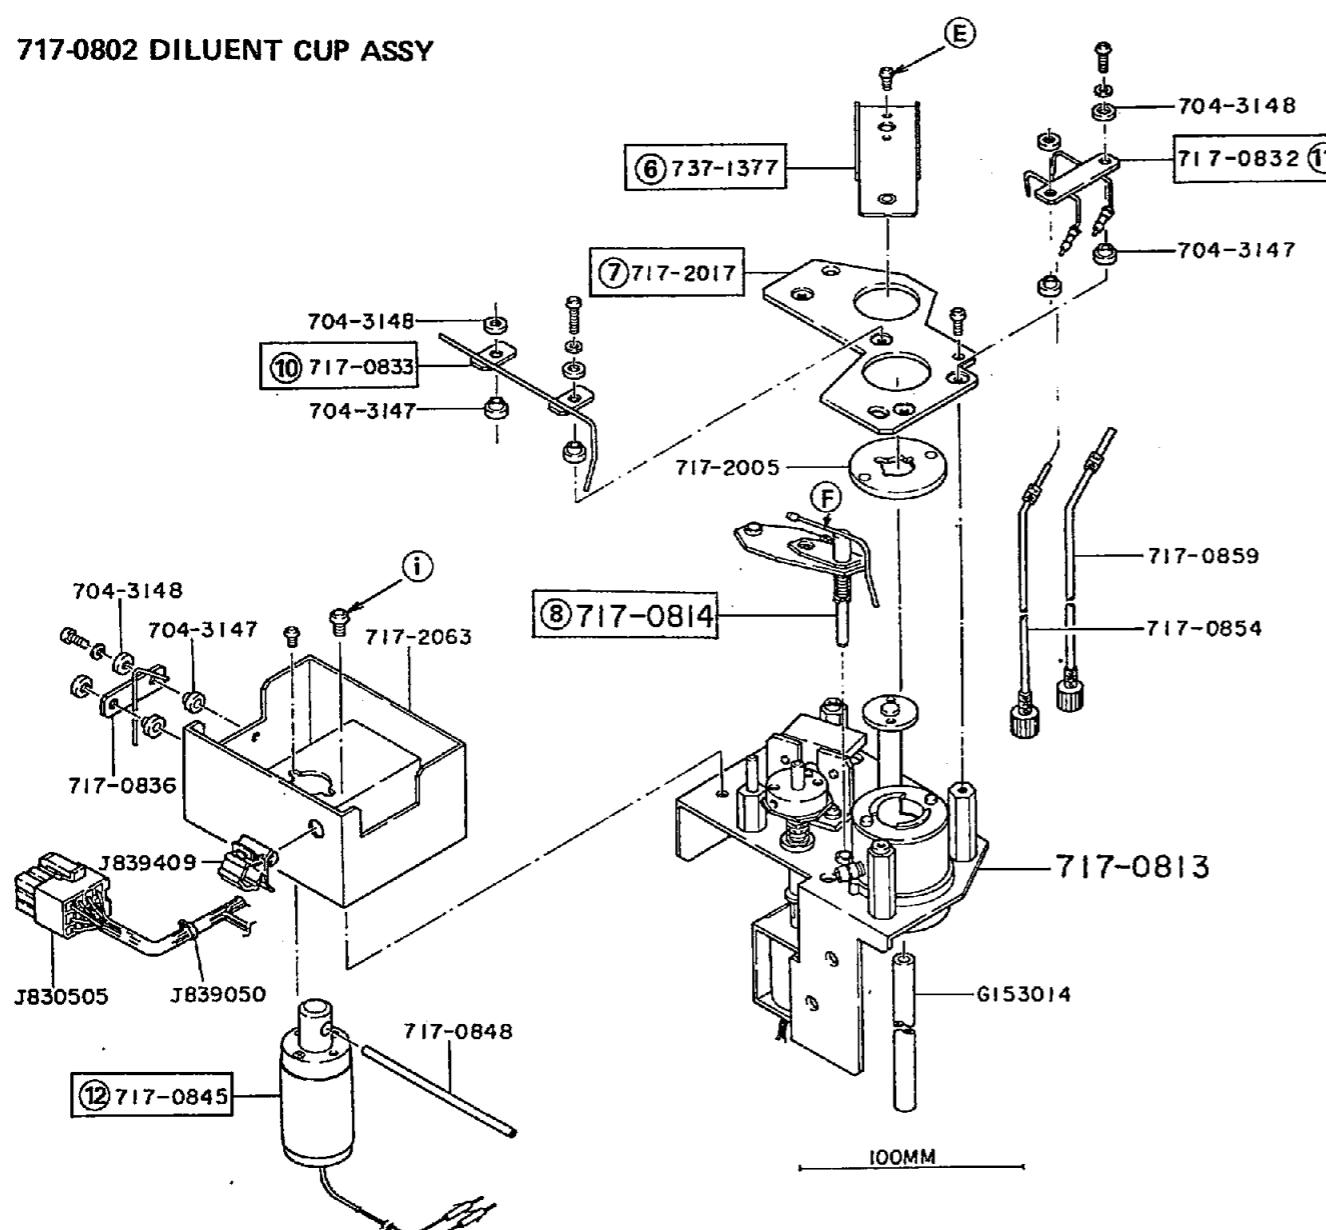
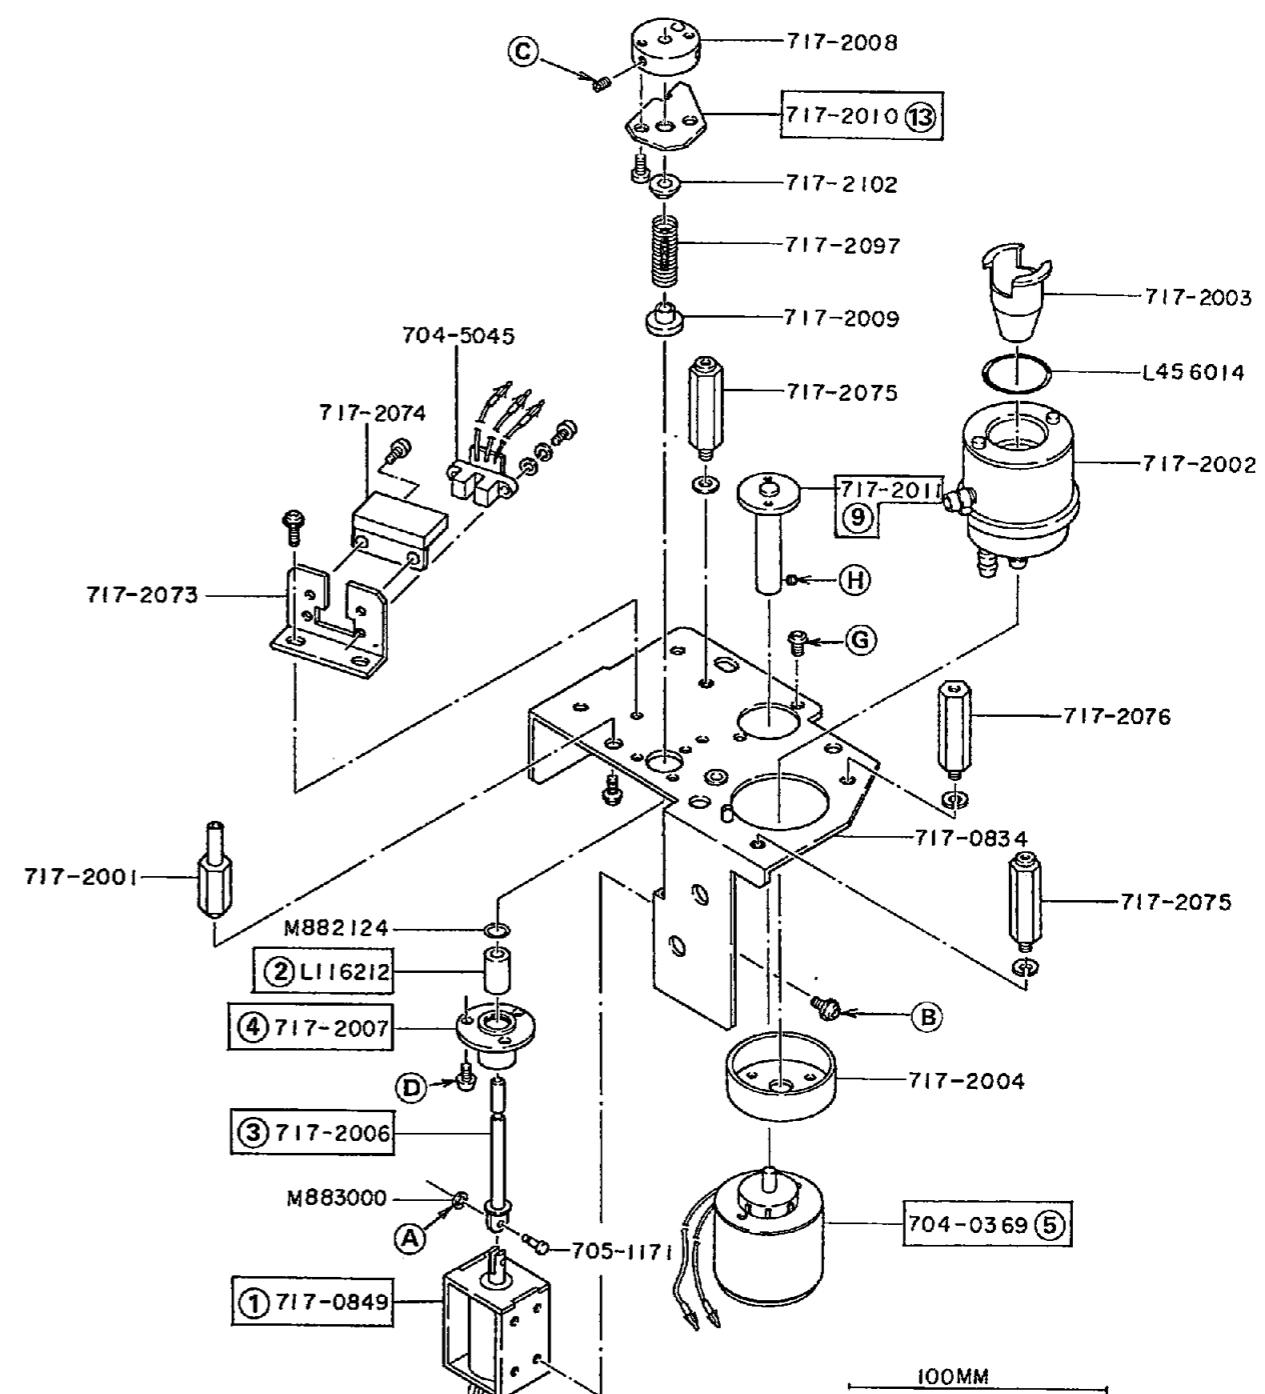

Fig. 8-20-1
Fig. 8-20-2
- (1) Detector plate ⑬ of vacuum nozzle assy should be in center of photocoupler.
- (2) Fix SOLENOID VALVE (2) (P/N 717-0849) ① (Fig. 8-20-2), so that vacuum nozzle can move smoothly up/down by hand.
(4 fixing screws B (Fig. 8-20-2) are concerned.)
- (1) Removal procedure of UPPER PLATE (P/N 717-2017) ⑦ (Fig. 8-20-1)
- (a) Remove Nozzle (SIP) ⑩, Nozzle (ISE) ⑪. (Fig. 8-20-1)
- (b) Remove vacuum nozzle assy ⑧ by unscrewing ⑨. (Fig. 8-20-1)
- (c) Remove shutter ⑥ (Fig. 8-20-1) by unscrewing ⑤.
- (d) Remove fixing screws and take out upper plate ⑦.
- (2) SOLENOID VALVE (2) (P/N 717-0849) ① (Fig. 8-20-2)
- (a) Remove snap-ring (A) and remove pin. (Fig. 8-20-2)
- (b) Remove 4 fixing screws (B). (Fig. 8-20-2)
- (3) BALL-BEARING (P/N L116212) ② (Fig. 8-20-2)
- (a) Remove upper plate ⑦. (Fig. 8-20-1)
- (b) Remove solenoid valve (2) ①. (Fig. 8-20-2)
- (c) Remove 2 hex. screws (C). (Fig. 8-20-2)
- (d) Pull down SHAFT (P/N 717-2006) ③. (Fig. 8-20-2)
- (e) Remove HOLDER (P/N 717-2007) ④ by unscrewing (D). (Fig. 8-20-2)
(4) ROTARY SOLENOID (P/N 704-0369) ⑤ (Fig. 8-20-2)
- Remove upper plate ⑦. (Including shutter removal.)
- Remove 2 screws (G). (Fig. 8-20-2)
- Pull down rotary solenoid ⑤ with SUPPORT (P/N 717-2011) ⑨. (Fig. 8-20-2)
- Loosen hex. screws (H). (Fig. 8-20-2)
(5) PINCH VALVE (P/N 717-0845) ⑫ (Fig. 8-20-1)
- Remove fixing screws (i). (Fig. 8-20-1)
- Pull down pinch valve ⑫ .